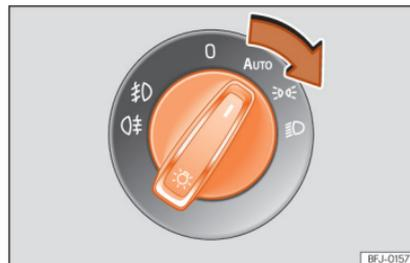

Fig. 92 Dash panel: lights control.
- Turn the switch to the required position »» Fig. 92.
- Turn on the ignition and turn the light switch to the position **AUTO** »» Fig. 92.
- Turn the light switch to a position other than **AUTO** »» Fig. 92.